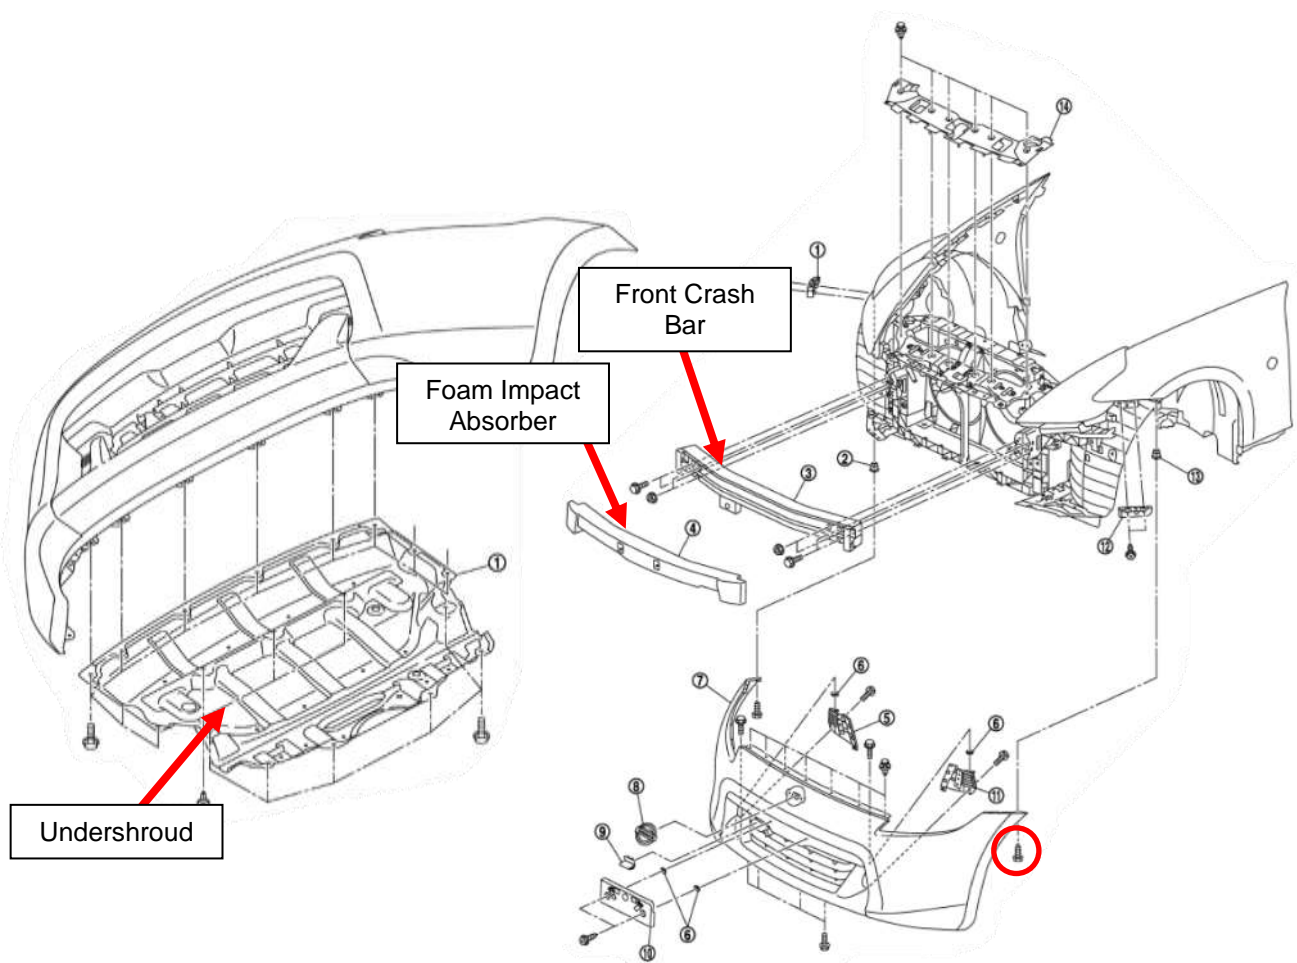

Figure 3
370Z Owners: Use Figure 3 below as a reference for Steps 18-24. G37 Owners can skip to Step 25.
19. Remove plastic clips and the front wheel/fender liners to reveal (1) one mounting screw at each side of the vehicle which mounts the corner of the Bumper Fascia to the vehicle (screw circled in *Figure 3* above). Remove mounting screw on each side.
20. Remove (7) seven plastic pop clips securing the Upper Bumper Fascia to the vehicle at radiator core support.
22. Remove (8) eight plastic clips which attach Diversion Panel/Radiator Air Guide to Composite Radiator Core Support. Set aside Diversion Panel.
24. Remove (4) four bolts and (4) four hex nuts securing Front Crash Bar to the chassis, retain the hardware as it will be reused. Remove Crash Bar.